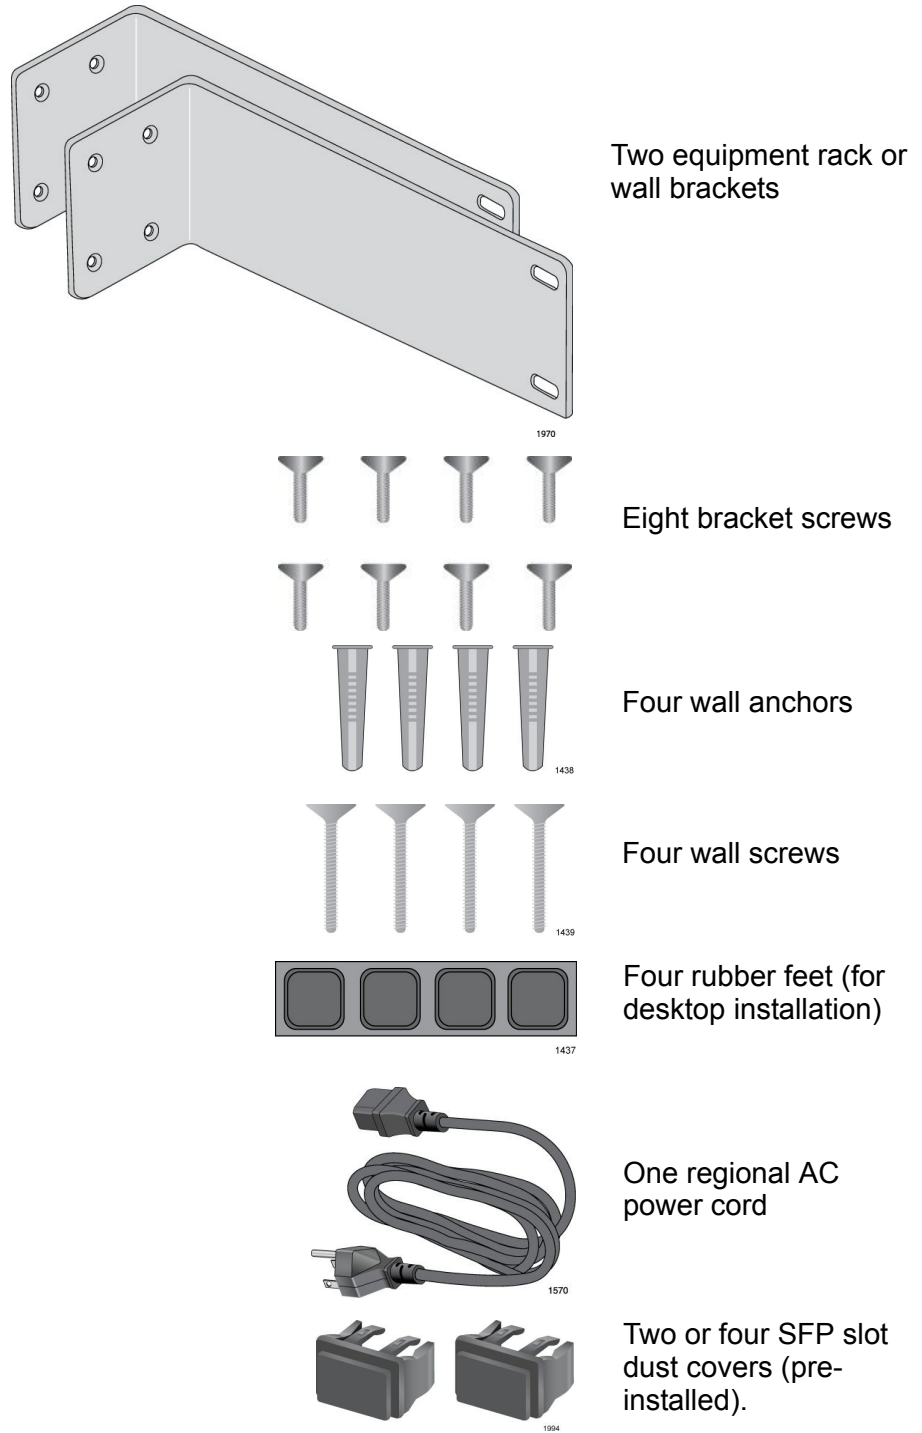

Figure 18. Shipping Package Contents
3. In addition to an AT-GS950/10PS, AT-GS950/16PS, or AT-GS950/48PS switch, verify that the shipping container includes the following items shown in Figure 18 on page 35.